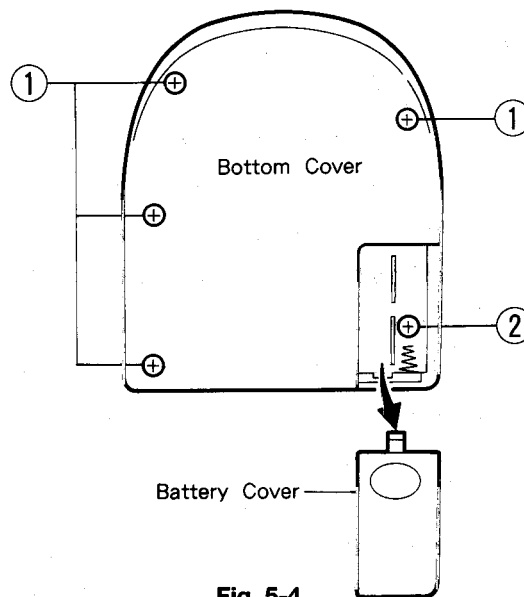
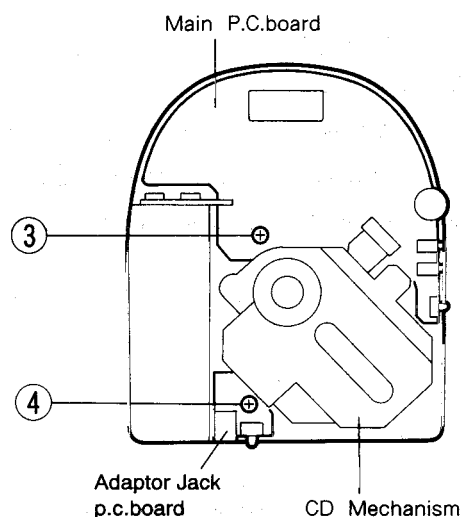
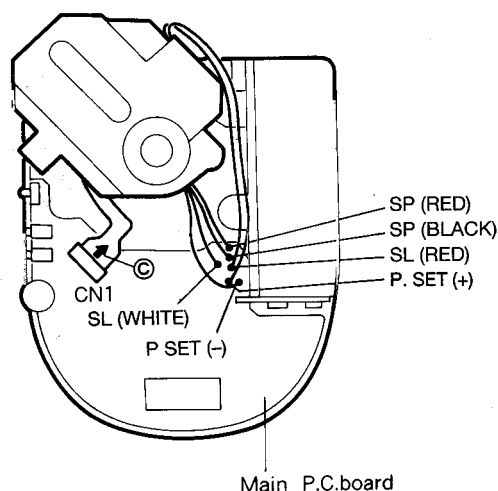

Fig. 5-4
Fig. 5-5
Fig. 5-6
■ Removal of front cover assembly (See Fig. 5-4)
2. Remove five screws (① × 4, ② × 1) retaining the front cover assembly.
■ Removal of main and adapter P.C. board (See Fig. 5-5)
2. Slightly lift the CD mechanism assembly upward and remove one screw ③ retaining the main P.C. board.
4. Remove the one screw ④ retaining the adapter jack P.C. board.
■ Removal of CD mechanism assembly (See Fig. 5-6)